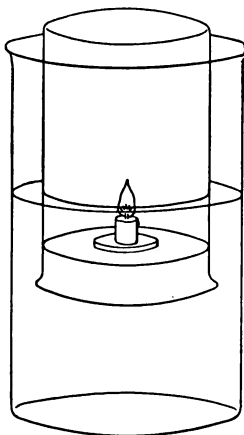

FIG. 11.
M. Right. For burning, then, it is necessary to have the candle and air. I will show you now that a candle can burn under water if it is only put under together with air. I let a little board float about on the water in this large glass, place a bit of burning candle on it, turn a glass upside down over it, and now I can dip the whole thing under; the candle is burning (Fig. 11).